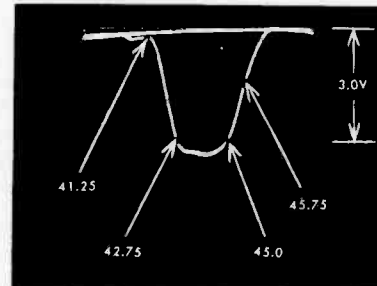

Fig. 13 Overall IF Response.
5. Connect the sweep generator to terminal "A" (Mixer grid, see Fig. 2). Connect terminal "F" to chassis and connect a jumper between terminal "E" and the junction of the 56 and 1500 ohm resistors in the cathode of the 1st IF. Adjust sweep to obtain a response similar to Fig. 13.
7. Disconnect the jumper between "E" and the 56 and 1500 ohm cathode resistors. Connect this jumper between "E" and chassis. Adjust sweep generator for 3 volts peak to peak output. Alternately adjust the 2nd, 3rd, 1st IF and the converter plate coil until an overall response similar to Fig. 13 is obtained. It will be found that the 2nd IF affects the low side (42.75 Mc) and the 3rd IF the high side of the response. After alignment remove all jumpers and check operation.